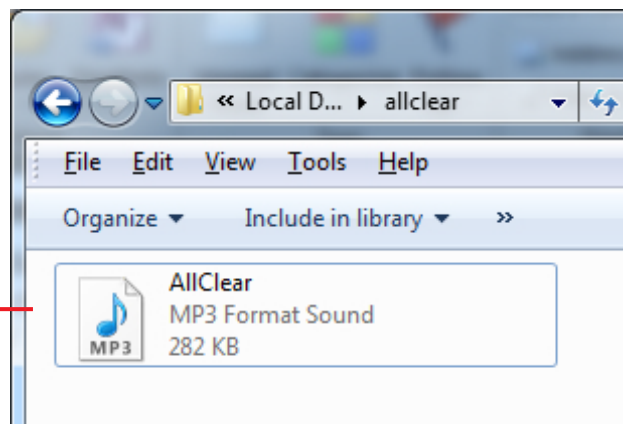
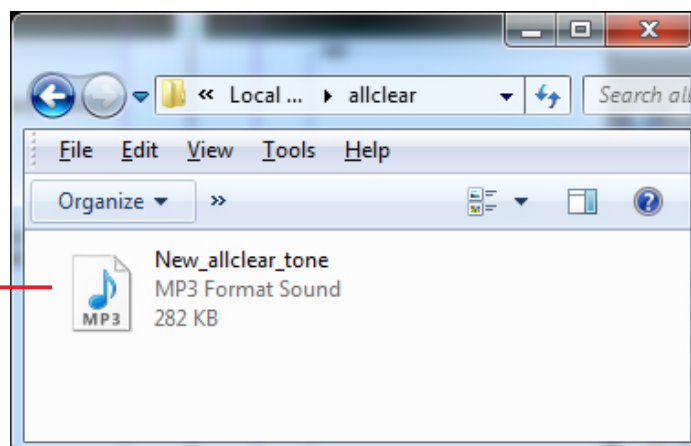

Fig 3.4c
Fig 3.4d
- Open the allclear folder and inside you should find an MP3 audio file as shown in Fig 3.4c. Delete this file and copy your own MP3 file to this folder as shown in fig 3.4d (NOTE : The audio file must be in MP3 format). The file can be named anything you like as long as it is in MP3 format (iin this case we have named it New_allclear_tone).